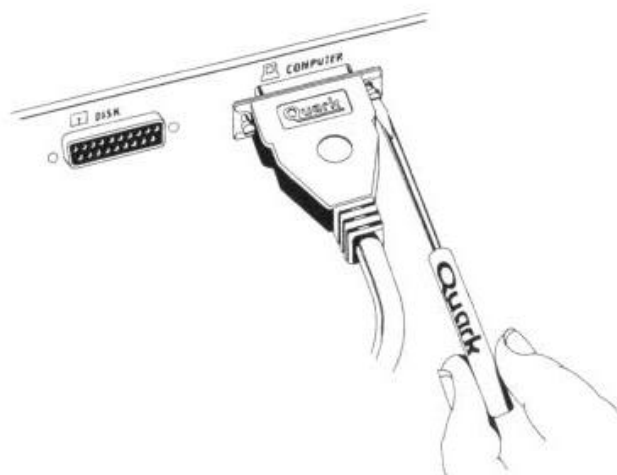

Figure 2-14. Connecting Quark Cable to QC Hard Disk
4. Connect the other end of the Quark cable to the nineteen-pin "D"-shaped socket labeled "Computer" on the back of the QC hard disk, and tighten the screws as illustrated in Figure 2-14.